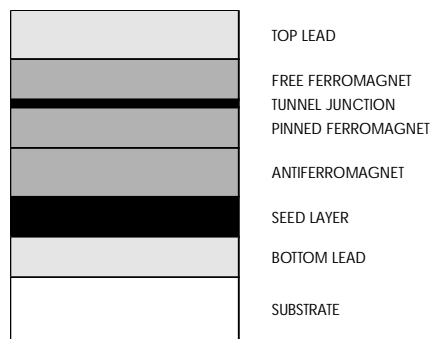

Fig.1. Structure of an MRAM cell.
Magnetic tunnel junctions comprise sandwiches of two ferromagnetic (FM) layers separated by a thin insulating layer which acts as a tunnel barrier (Fig.1). In these structures the sense current usually flows parallel to the layers of the structure, while the current write is passed perpendicular to the layers of the MTJ sandwich.